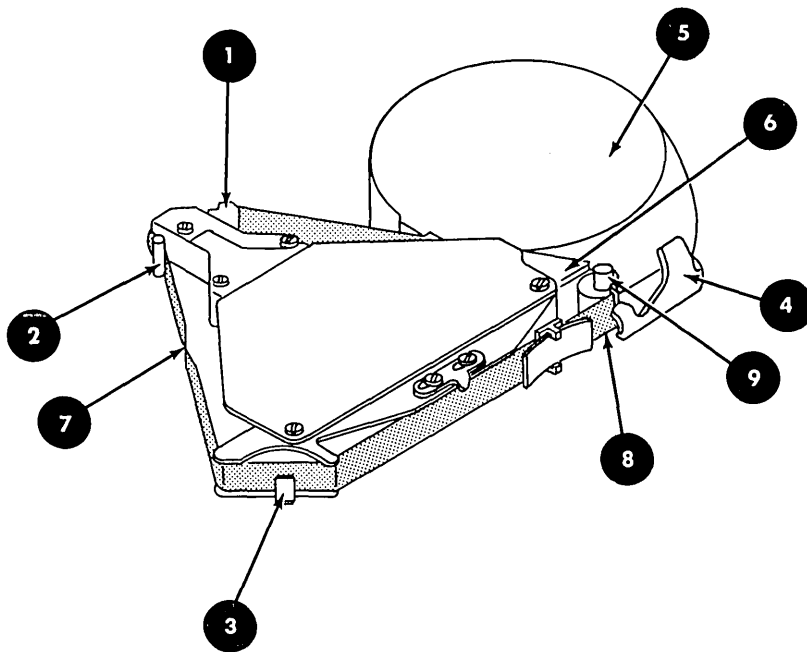

Figure 38. Ribbon Cartridge
The print head forms the characters, which are printed automatically by program control. The print ribbon is contained in a cartridge attached to the print head. The ribbon is threaded around the print head as shown in Figure 38. When the print head is signaled by the program, it moves across the platen and strikes the ribbon and paper for each letter, causing a message to be printed on the paper.
6. Raise the plastic safety shield containing the print-position indicator by pulling upward on the shield edge near the platen. On the inside of the shield you will see a decal showing how the ribbon is threaded around the print head. This mechanism is shown in Figure 38, with associated reference numbers.